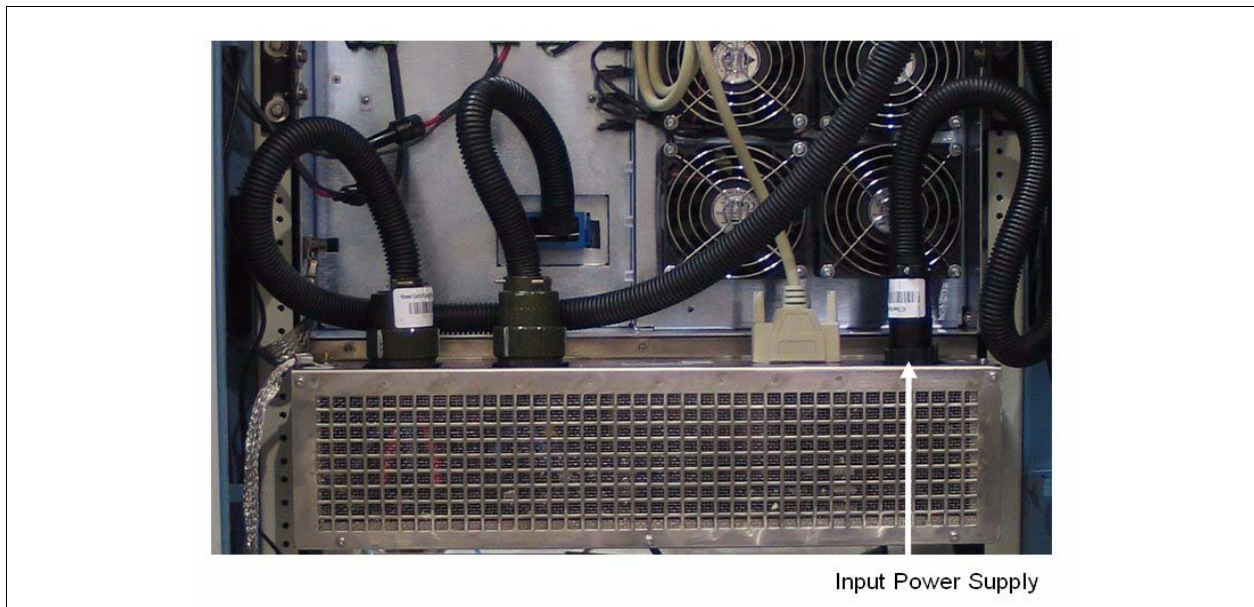

Figure 2-11: Power Supply Subrack Connection
- 4 Twist the captive screws clockwise to secure the power supply module into place. If you are connecting directly to the power supply subrack assembly, Figure 2-11 shows the input power connector location.
If you have ordered the NIB as separate subrack assemblies, you will connect the input power cable directly to the power supply subrack assembly, shown in Figure 2-11.